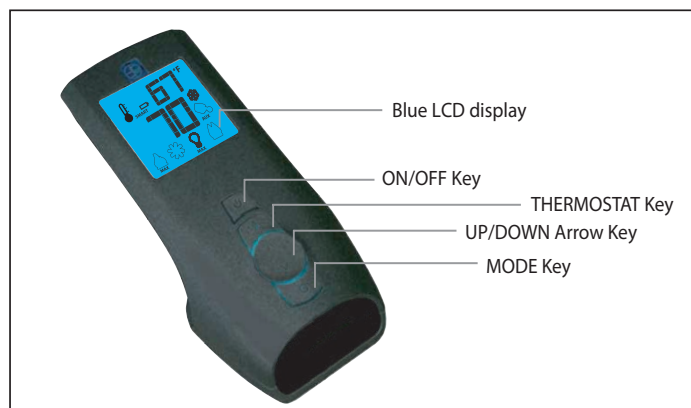
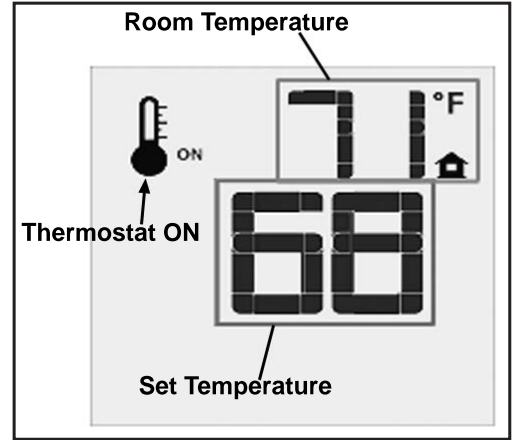
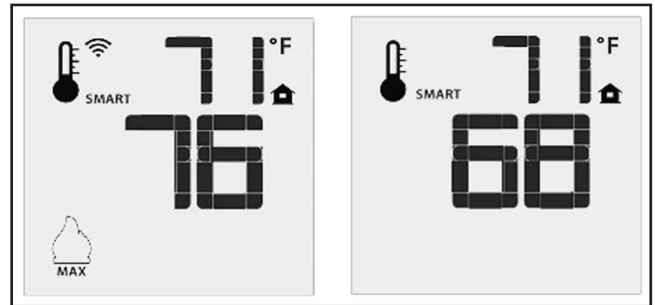

Figure 4: Proflame 2 Transmitter.
Figure 9: Remote Control Displays Set Temperature.
Figure 10: Remote Control's Smart Flame Function.
The Proflame 2 Transmitter is a black remote control with a blue backlit LCD display. It uses a streamline design with a simple button layout and informative LCD readout (Figure 5). The Transmitter is powered by three (3) AAA type batteries. A Mode Key is provided to Index between the features and a Thermostat Key is used to turn on/off or index through Thermostat functions (Figure 4 & 5)
When the Westport is turned off press the mode key to index to the constant pilot (CPI) mode icon (see figure 9). Pressing the up arrow key will select Continuous Pilot Ignition (CPI) and pressing the down arrow key will return to IPI. Once a selection is made the IFC will beep once to confirm it had received the command. **NOTE: It is recommended to use the continuous pilot mode during the winter when the outside temperature is below 50°F (10°C) to keep the chimney properly heated for updraft during burner ignition.** Continuous pilot mode also keeps the firebox warm which eliminates both heat loss to cold air that is trapped inside the firebox as well as excessive exhaust vapour condensation on the door glass.
Press the ON/OFF Key on the Transmitter. The Transmitter LCD display will only show the room temperature and Icon (see Figure 9). A single “beep” from the IFC confirms reception of the command and both the pilot light (if the unit is not set to continuous pilot) and main burner will turn off.
The Remote Control can operate as a room thermostat. The thermostat can be set to a desired temperature to control the comfort level in a room. To activate this function, press the Thermostat Key (see Figure 4). The LCD display on the Transmitter will change to show that the room thermostat is “ON” and the set temperature is now displayed (see Figure 9). To adjust the set temperature, press the Up or Down Arrow Keys until the desired set temperature is displayed on the LCD screen of the Transmitter.
The Smart Thermostat function adjusts the flame height in accordance to the difference between the set point temperature and the actual room temperatures. As the room temperature gets closer to the set point the Smart Function will modulate the flame down. To activate this function, press the Thermostat Key (Figure 4) until the word “SMART” appears to the right of the temperature bulb graphic (Figure 10). To adjust the set temperature, press the Up or Down Arrow Keys until the desired set temperature is displayed on the LCD screen of the Transmitter.